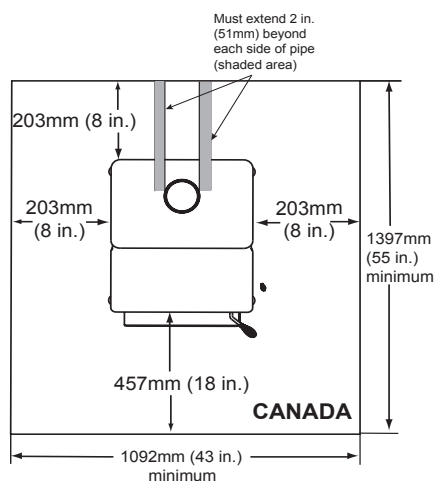

Figure 11.2
**\*EXCEPTION:** Non-combustible floor protector must extend beneath the flue pipe when installed with horizontal venting and extend 2 inches (51mm) beyond each side. **See Figure 11.2**